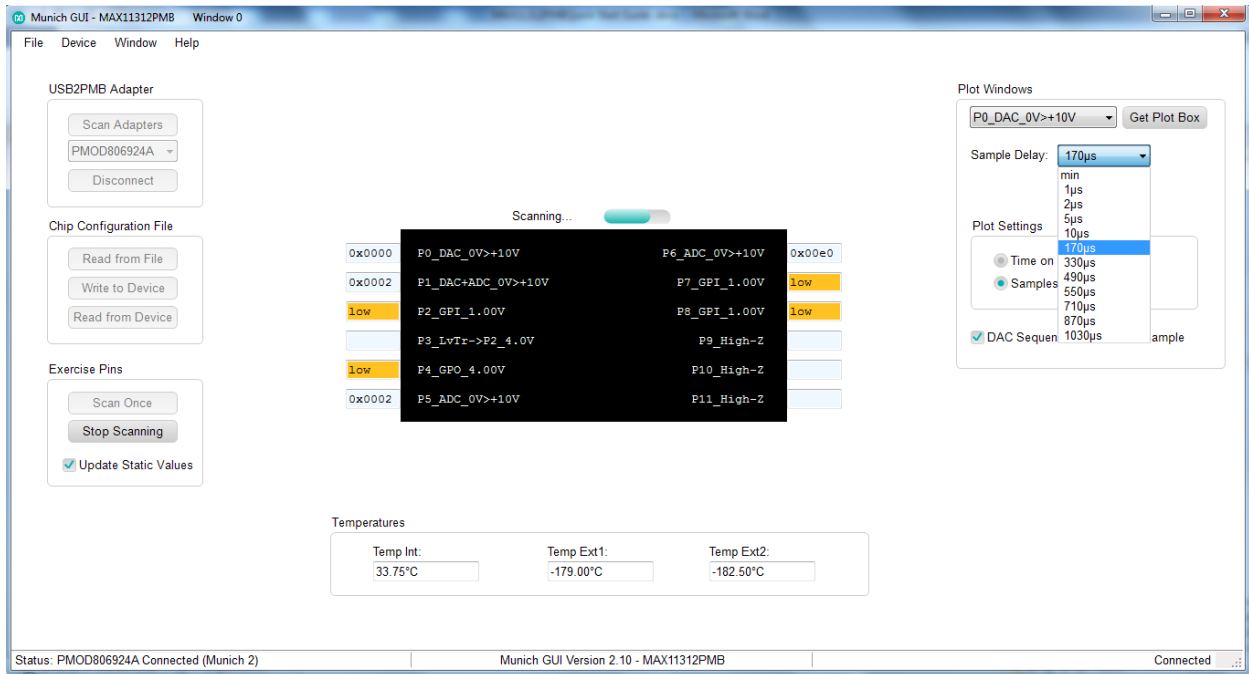

Figure 13. Sample delay drop-down menu.
- c. **Sample Delay:** This drop-down menu allows the user to select up to $1030\mu\text{s}$ delay. This delay is enabled by the GUI between each complete sequence of ADC read. See **Figure 13**.